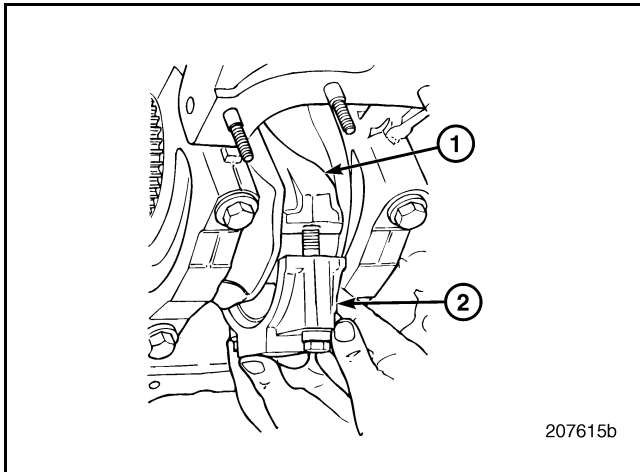

Figure 244 — Connecting Rod Cap Installation
14. Begin by installing the bearing cap at the No. 1 connecting rod journal (Figure 244) and check **Running Clearance** following the procedure later in this section. Repeat the running clearance check following the installation of each of the remaining five pistons.